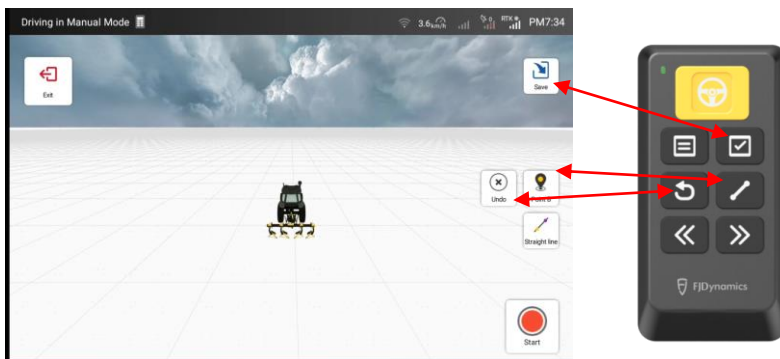

Figure 12 Guidance line
1) Marking, canceling and saving points: Press the buttons on the FJD Easy Control to mark, cancel, and save points, as shown in Figure 12.